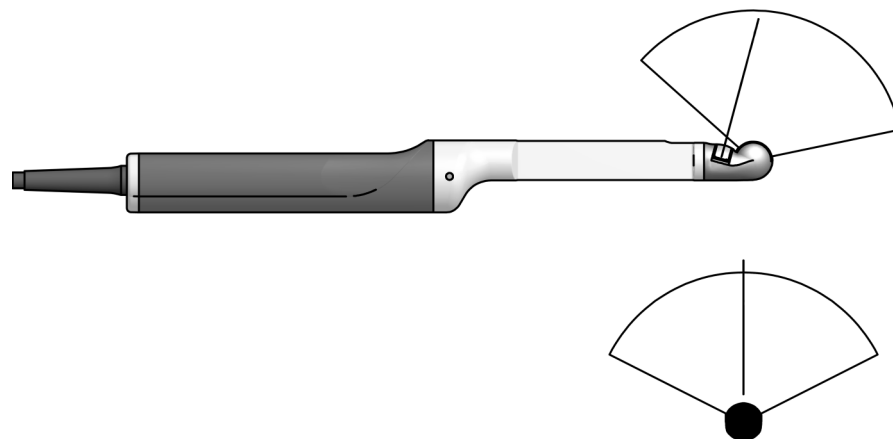

Figure 2. Imaging plane for Transducer Type 8808e.
The transducer contains two convex arrays — one for transverse (T) imaging, and one for sagittal (S) imaging (see Fig 2). The advantage of being able to view two planes simultaneously with one transducer is that the true position of the needle can be seen during puncture and biopsy and a suspicious lesion can be viewed in both planes.